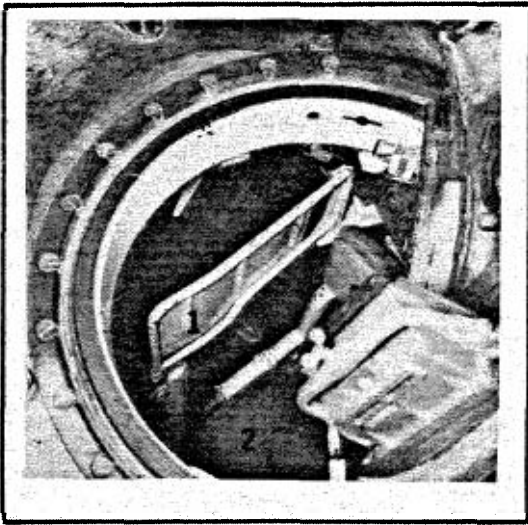

FIG. 3-14. TC BALLISTIC SHIELD
i. Gun Shield (Fig. 3-14). For the protection of the Tank Commander from the recoil of the main gun and the operation of the spent-shell ejection mechanism, there is a shield that is mounted on his seat along his right side. THIS SHIELD SHOULD ALWAYS BE MOUNTED WHEN THE VEHICLE IS MOVING.